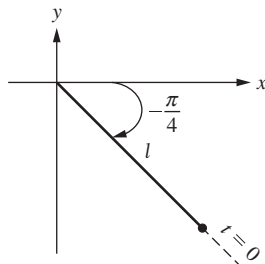

Figure P6.3 Rotating one-link robot starting at $\theta = -45^\circ$.
- 6-3.** The tip of a one-link robot is located at $\theta = -\pi/4$ rad at time $t = 0$ s as shown in Fig. P6.3. The robot is rotating at an angular frequency of 4π rad/s. If $l = 7.5$ cm, plot the x - and y -components as a function of time. Also find the amplitude, frequency, period, phase angle, and time shift.